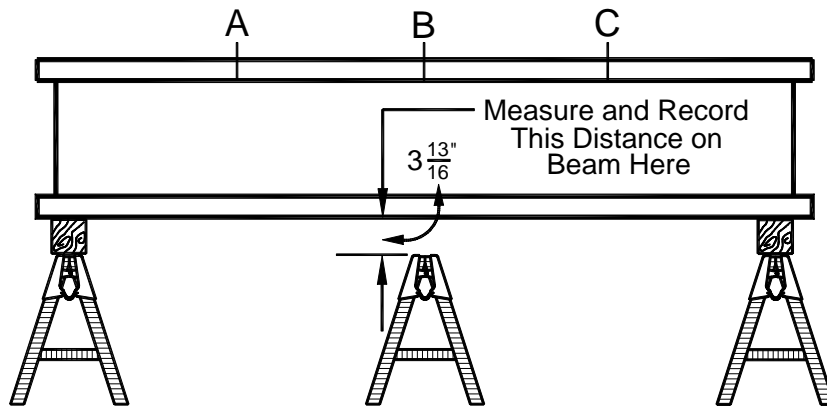

Figure 4-26. Cambering an I-beam.
2. Place the beam on horses or other supports so that it is supported only on the ends. Place a third horse or support under the beam exactly at the beam's midpoint. The beam and its center support must not touch. Measure the distance between the bottom of the beam and the top of the center support and record this distance on the web of the beam above this point for later reference, Figure 4-26.
3. Use a tape to divide the beam into quarters, and mark points A, B, and C with welder's chalk, Figure 4-26.